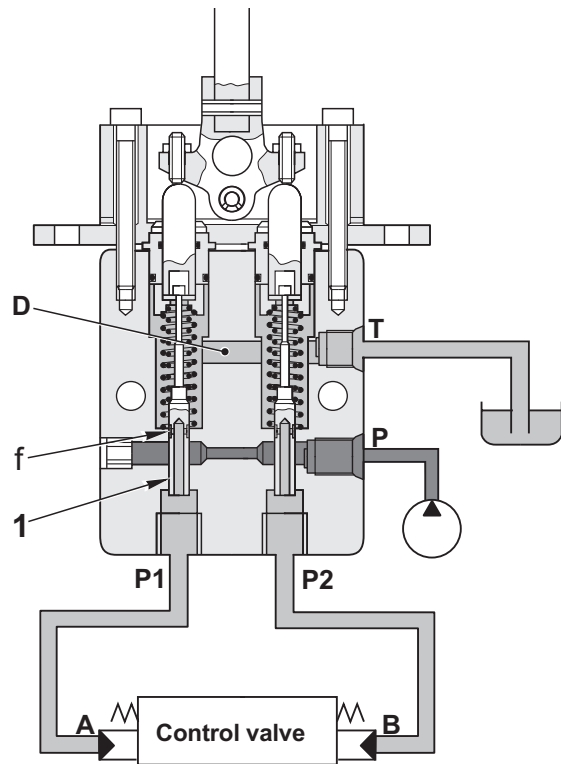

Fig. 1
Ports **A** and **B** of the control valve and lines **P1** and **P2** of the PPC valve are connected to drain chamber **D** through fine control hole **f** in stem (1). (Fig. 1 1).